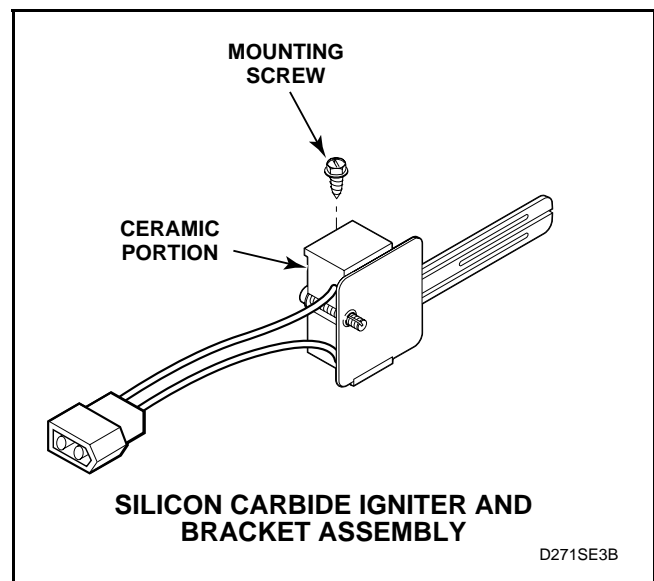

Figure 43
- Silicon Carbide Igniter** – meter should read between 45 – 200 Ohms. See *Figure 43*.